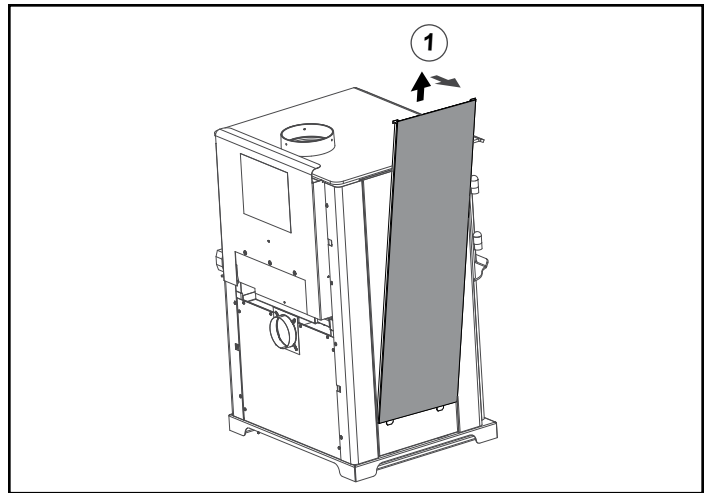

Figure 24.4
- Remove solid panel from side by lifting up and pulling away from appliance (use a flat tool to pry from bottom if needed) (**Figure 24.4**).
1. Remove tile frame from side by lifting up and pulling away from appliance (**Figure 24.4 reference solid side panel removal**).